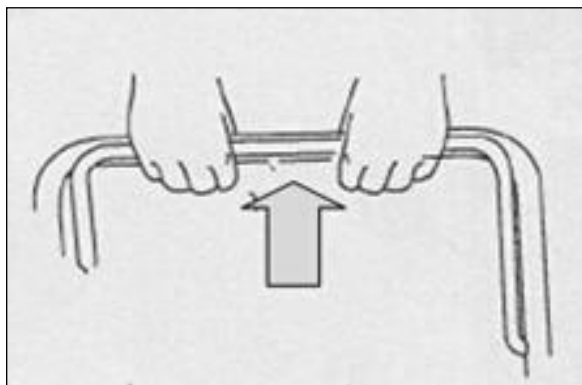

Fig. 2B
b) Standing behind the unit, grasp the brake control handle and hold it against the upper handle. (Fig 2B)